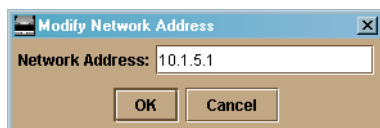

Figure 2-11: Modify Network Address Dialog Box
2. Select Modify. The Modify Network Address dialog box (Figure 2-11) displays.